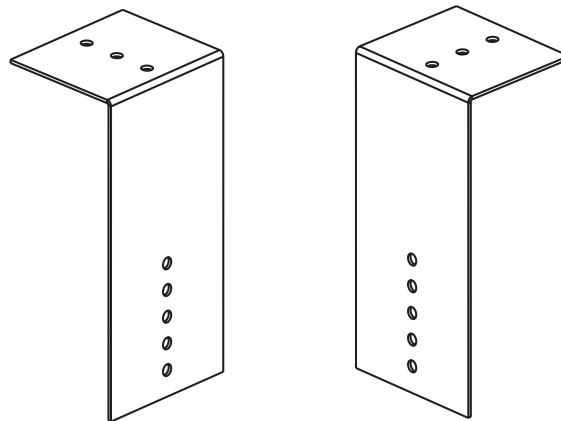

Figure 19. Concentric Adapter Box Brackets
4. Secure longer angles on concentric adapter box brackets (see **Figure 19**) to concentric adapter box.
- b. Position concentric adapter box to match pipe runs and secure short angles of concentric adapter brackets (see Figure 19) to underside of roof using field-supplied hardware.